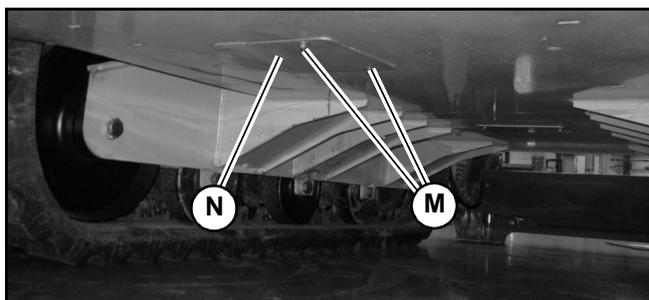

Fig. 86 – Engine Oil Drain Plug
5. Remove hardware (M, Fig. 86) securing engine drain plug access panel (N). Remove panel to access engine oil drain plug (O).